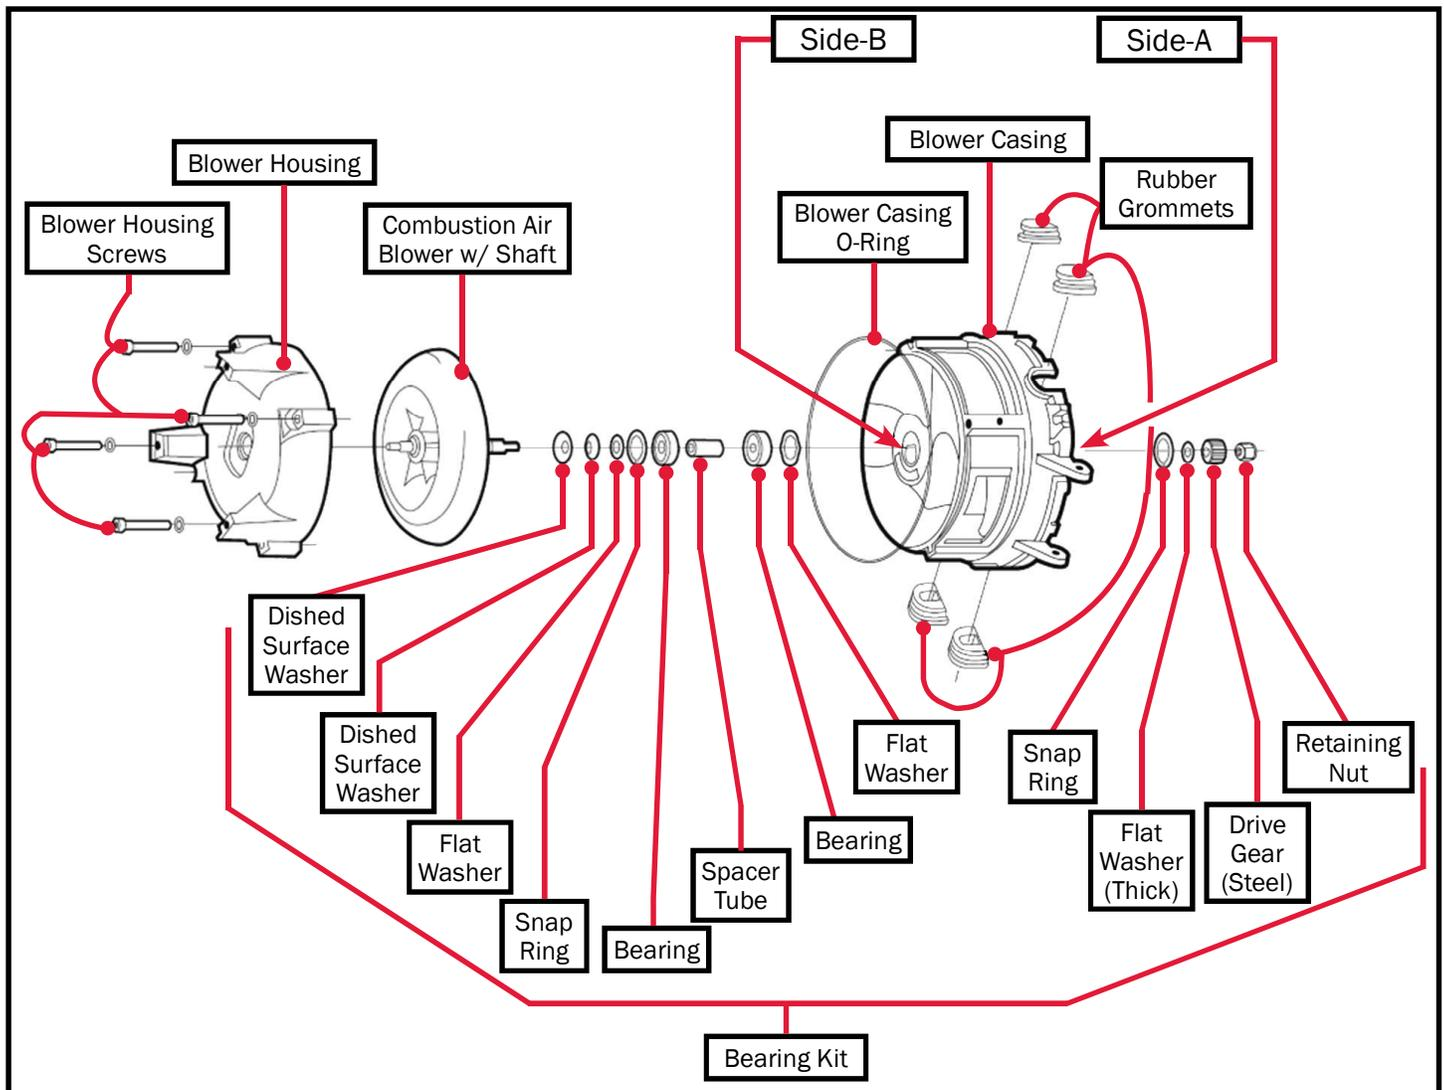

Figure 116b
- Hold side-B (see Figure 116b) of the blower casing and loosen the retaining nut located in side-A of the blower casing. Remove the retaining nut, steel drive gear and thick flat washer from the combustion air blower's shaft. Lightly tap the threaded end of the shaft so that the combustion air blower can be easily removed from the blower casing.